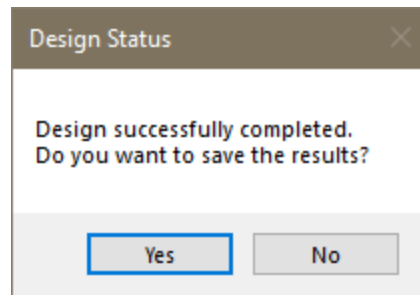

Figure 7-11
- Click on *Floor Design* → *Section Design* and click on the *Design the Sections* icon. The program will start to perform the design of the sections. When completed you should see a window as shown in **FIGURE 7-11**.